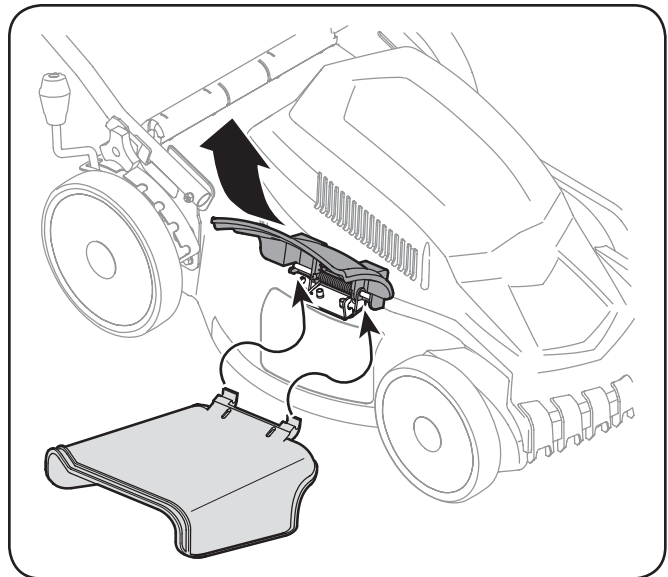

Figure 3-11
2. Slide the hooks of the side discharge chute under hinge pin on mulch baffle assembly. See Fig. 3-11.
3. Secure the tabs of the side discharge chute onto the hooks below the side mulching baffle. See Fig. 3-11.